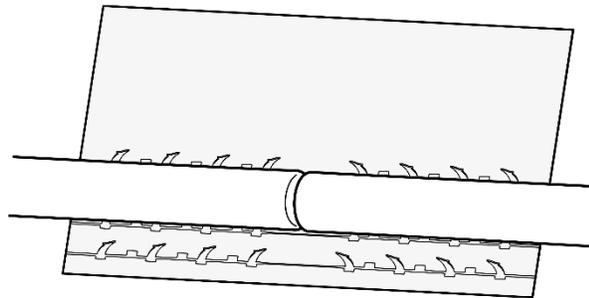

Figure 4
- 8.7 Repeat this process with the second nerve stump on the opposite side of the device, such that the two nerve stumps are positioned in close approximation (Figure 4).